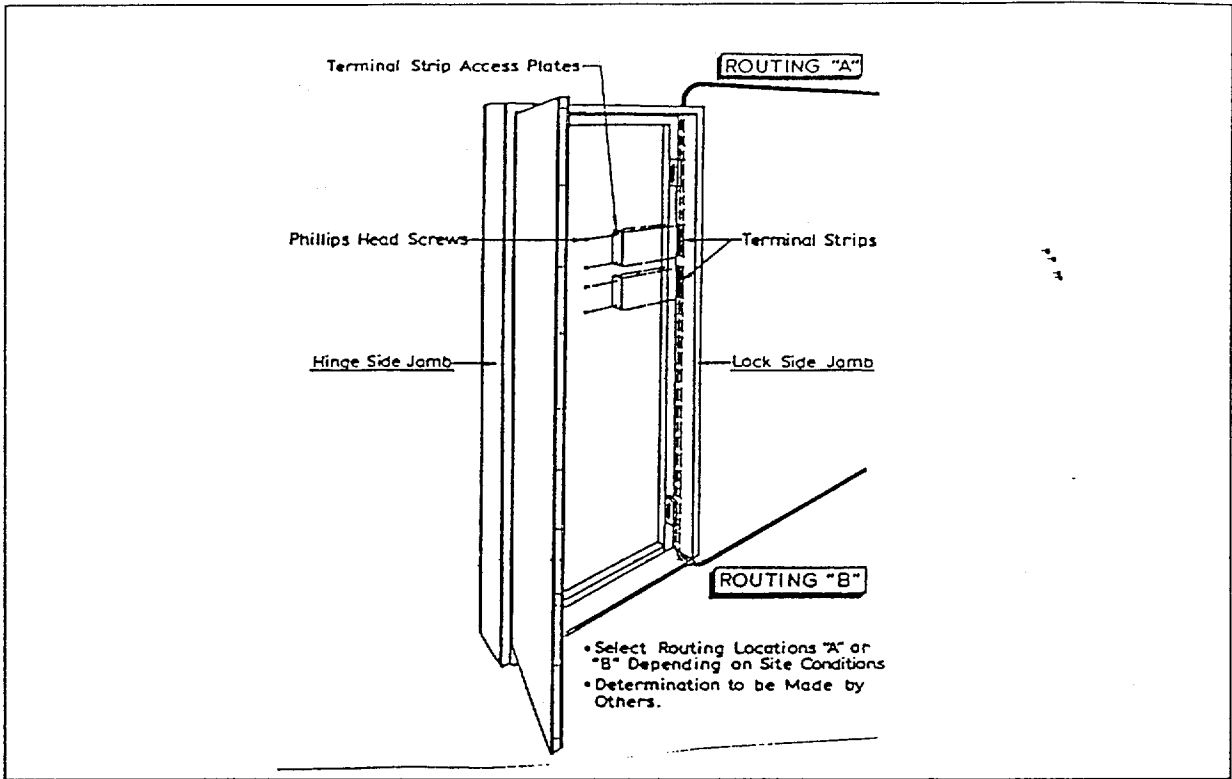
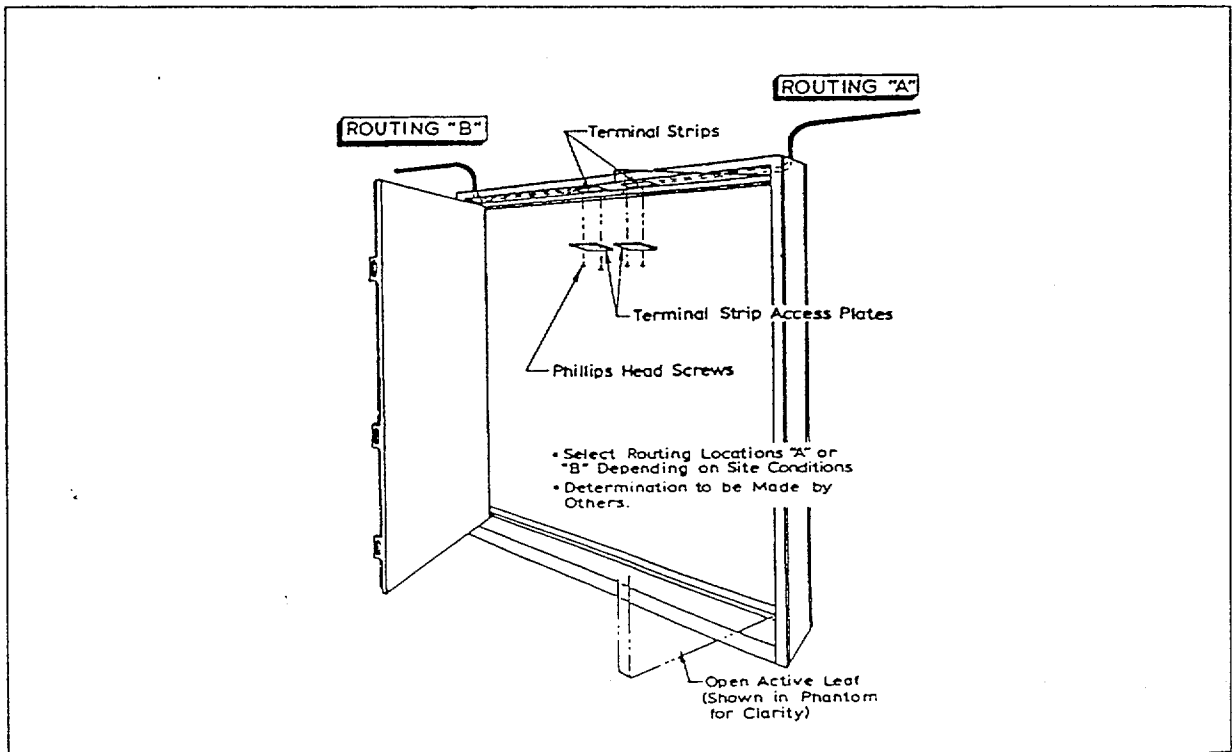
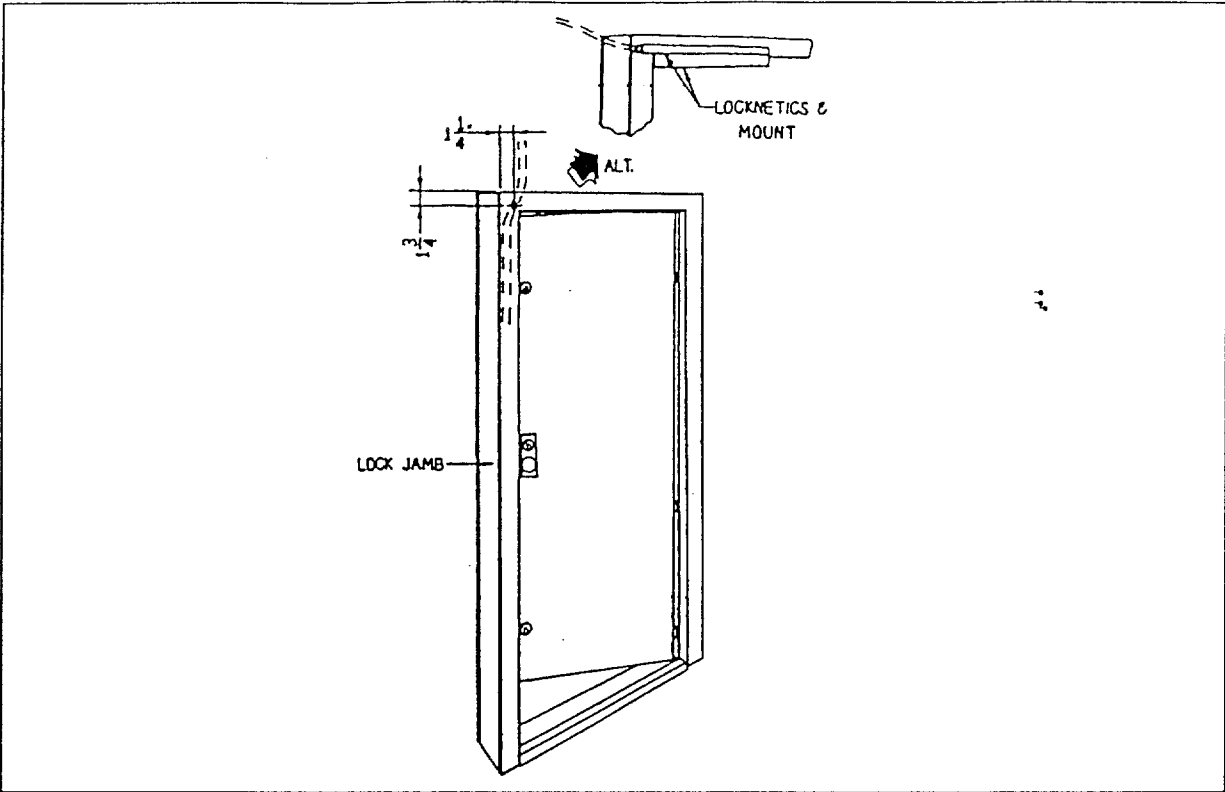

FIGURE 1. Introduction of electrical wiring to single door assembly
FIGURE 2. Introduction of electrical wiring to double door assembly
FIGURE 3. Alternate field introduction of wiring.
The following instructions are provided to indicate routes and locations for introducing electrical conduit (by others) to provide electrical power to terminal strips within the Norshield door frame. Figures 1, 2 and 3 illustrate the connection points for conduit. Figure 1 shows the conduit entering the single door frame from the head (A) into the lock side jamb or from the floor (B) into the lock side frame. Figure 2 shows the conduit entering the double door frame from the head into the side jambs. Figures 1 and 2 also show terminal strip locations for the single and double door and frame assemblies. Figure 3 shows the alternate method for introducing surface mounted conduit from the secure, or non-attack, side of the door. This is accomplished by drilling a hole at the coordinates shown and either applying an elbow for the conduit run, or running the conduit into the end of the Locknetics mounting tube. All wires should be well insulated and appropriate bushings and conduit fittings should be used to protect the wiring from contact with the steel frame. All wires shall be inserted through the conduit in the field (by others).